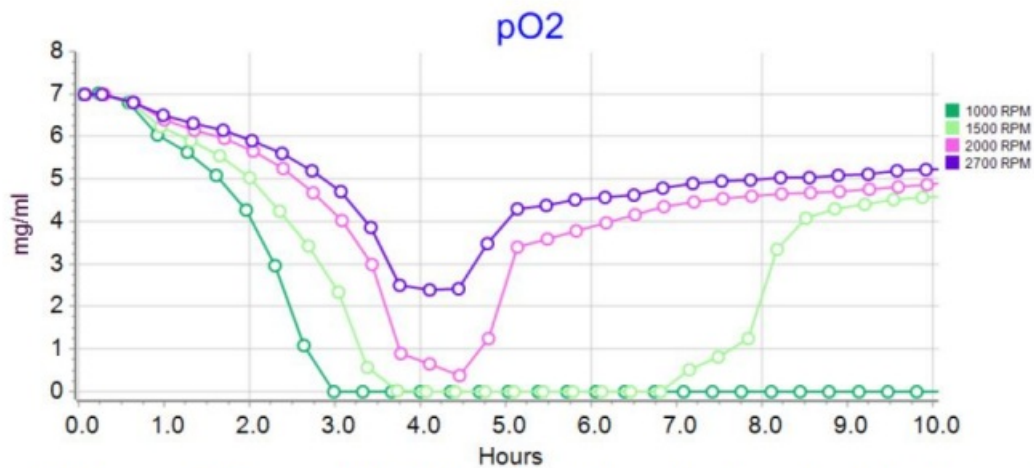

Figure 9. Influence of the speed of rotation of the tube on the dynamics of the change in the concentration of oxygen in the cell suspension.
The single-use bioreactor falcon tubes were filled with nutrient medium and covered with screw caps provided with special breathing openings, which were closed with a membrane that was semi-permeable to oxygen. Then these 50 ml tubes were placed in RTS-8 plus and the fermentation process was initiated synchronously. Working volume was 10 ml, the cultivation temperature was 37 ° C, the measurement interval (MI) of the sensors were every 20 minutes, the reverse spin interval (RSI) of the tube 1 time per second, the intensity of rotation of the tubes – according to the signatures to the legends (fig. 9). The aeration intensity was changed by changing the rotation speed or angular velocity () of the bioreactor tube in discrete ranges of = 1000 rpm (green curve), = 1500 rpm (light green), = 2000 rpm (pink curve) and = 2700 rpm (purple curve).
Let us consider the obtained data of the dependence of the change in the rate of growth of oxygen consumption and of pH of the nutrient medium on the rate of rotation of the tube. From the data obtained (see fig. 9), it is clear that an increase in the rotation speed of the tube leads to an acceleration of the growth rate of the optical density of the nutrient medium (OD600) and therefore of cells whose concentration (in mg/ml) corresponds to the values of OD600. The greatest difference in cell concentration is for 4-5 hours of cultivation and then after 10 hours the OD of all variants is compared in the region of 6.0-6.5 OD600, which is the maximum possible yield of biomass of *E. coli* BL21 cells on the LB medium.
From the data presented in fig. 9, it is seen that during the transition of the culture to the logarithmic growth phase, an increase in the intensity of oxygen consumption from the medium consumed for aerobic generation of ATP is observed. If under intensive aeration conditions (corresponding to = 2000 rpm and = 2700 rpm) the cell culture does not fall into hypoxic shock, then for aeration intensity corresponding to from 1500 and below, hypoxia is observed – that is, a state in which the OTR is lower than the intensity of oxygen consumption by the culture. It is interesting to note that this transition is observed at cell concentrations in the medium corresponding to the values given in Table 2.